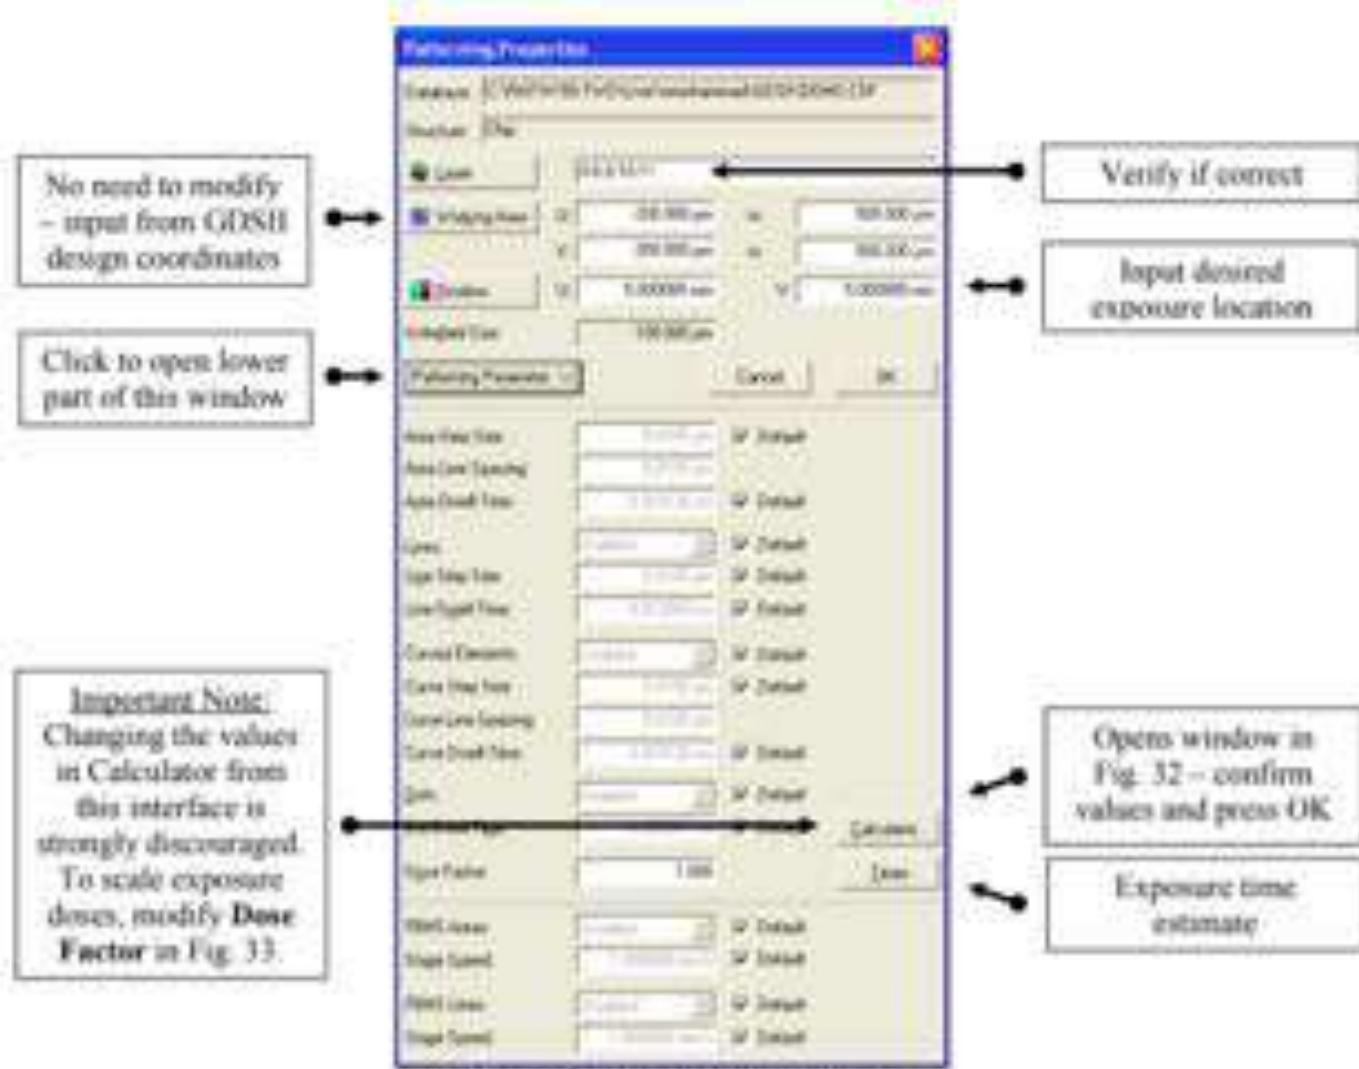

Figure 34 Patterning properties window
32. In the Raith software, click on **File >> New Positionlist**. A window will pop-up (Fig. 33) in the Raith software. Drag and drop your design (.csf) files from the **Design** menu (**GDSII Database** window) into the positionlist. You may input multiple designs in the positionlist. **Right click** anywhere on the inserted file information bar and click **Properties**. A window (Fig. 34) will pop-up. Insert values as shown.